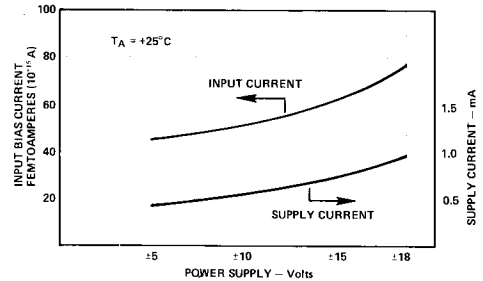

Figure 8. Input Bias Current and Supply Current Versus Supply Voltage
- The heat dissipation can be reduced initially by careful investigation of the application. First, if it is possible to reduce the required power supplies, this should be done since internal power consumption contributes the largest component of self-heating. To minimize this effect, the quiescent current of the AD515 has been reduced to a level much lower than that of any other electrometer-grade device, but additional performance improvement can be gained by lowering the supply voltages, to ± 5 volts if possible. The effects of this are shown in Figure 8, which shows typical input bias current and quiescent current versus supply voltage.